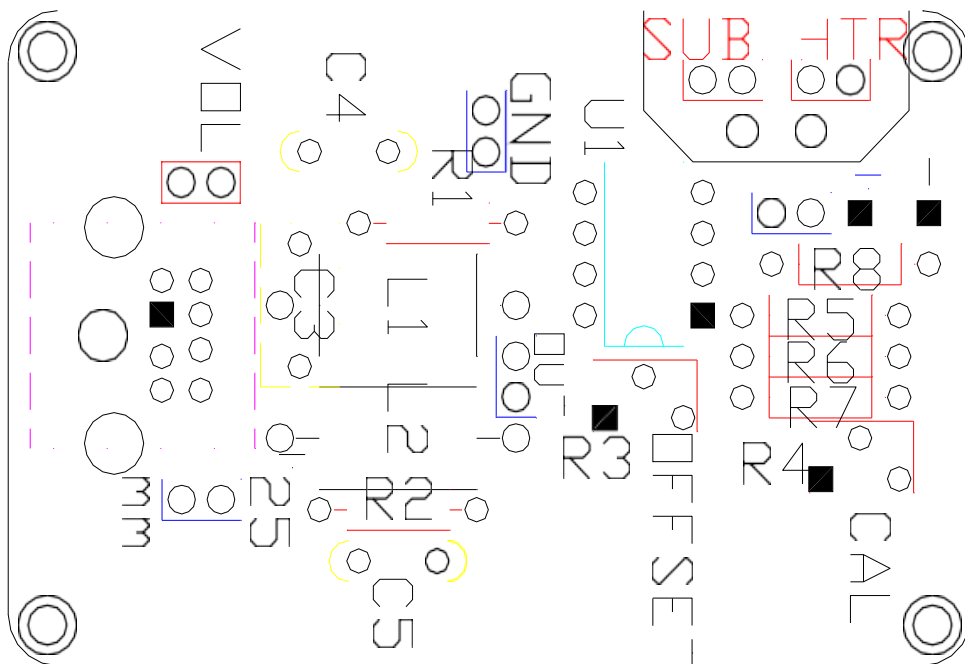

Figure 3. Vector Calorimeter Circuit Board
- A. Remove the screws holding the calorimeter's ID tag and remove the plate to expose the circuit board. Figure 3 shows the pin out of the calorimeter circuit board.